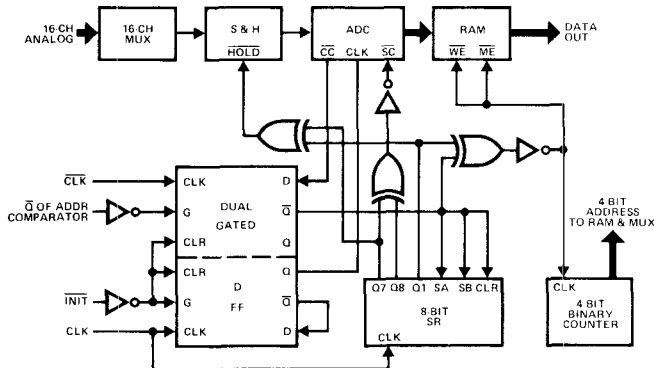
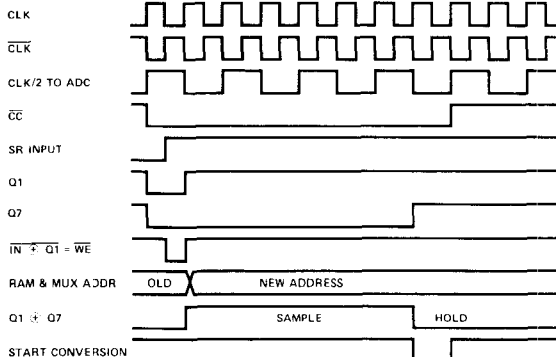

FIGURE 15. Sequencing Logic with SR
FIGURE 16. Timing for S-R Sequencing
An alternate sequencing circuit without one-shot circuits is shown in Figure 15 with timing relationships in Figure 16. It makes use of a shift register and exclusive-OR gates to generate the gates needed to write into memory, sample and hold, and start conversion. The ADC clock is generated at twice the desired clock frequency and divided by 2 in a D flip-flop. In this manner, the minimum gate width is 1/4 of the ADC clock period (620ns in this example). The  $\overline{CC}$  signal is clocked into a D flip-flop with a delay of 620ns. The delayed output clears the shift register (SR) and is clocked into the SR after an additional 620ns delay. An exclusive-OR of the SR input and Q1 output generates a 620ns gate to write data into the RAMs. The trailing edge of this  $\overline{WE}$  gate clocks the  $\div 16$  counter to advance the MUX and RAM address to the next channel. Exclusive-ORing of SR Q1 and Q7 produces an 8.75 $\mu s$  sample gate. (If the acquisition and settling time of the S&H is greater than 8.75 $\mu s$ , additional circuit complexity is required.) Exclusive-ORing of Q7 and Q8 produces a synchronized 1.25 $\mu s$  gate to start the ADC. This circuit may not be the most versatile or elegant for the purpose. For those applications with longer S&H acquisition times or other requirements, some alternate circuit may be designed if that of Figure 15 is unacceptable.